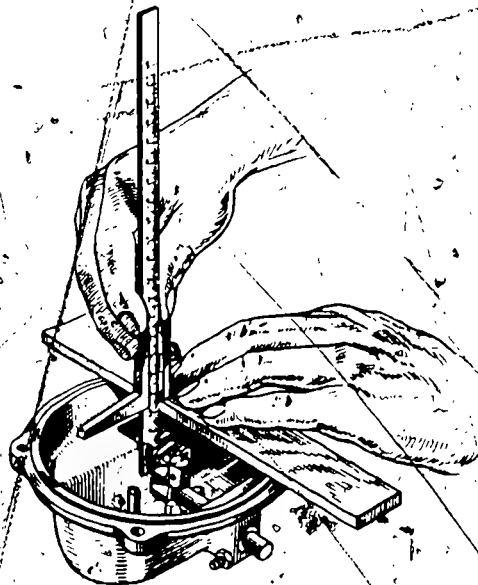

Fig. 13 Adjusting the distance from spigot support to centre of guide pin
6. Assembling the lever mechanism of the governor cover (17): Mount lever shaft (9) and steering lever (11), securing them well with pins. Insert key for control lever (16) in lever shaft. Mount control lever securing it with screw. Turn lever shaft (9) towards "full load", then insert curve templet (8) into guide pin of the steering lever (11). Turn lever shaft (9) back again while lifting curve templet (8) and fitting it to setpins; fix it with hexagon screw.
The following standard gauges are then adjusted between the housing-spigot supporting surface of the governor cover (17) and centre of guide pin of the steering lever in "full-load" position (see Fig. 13):